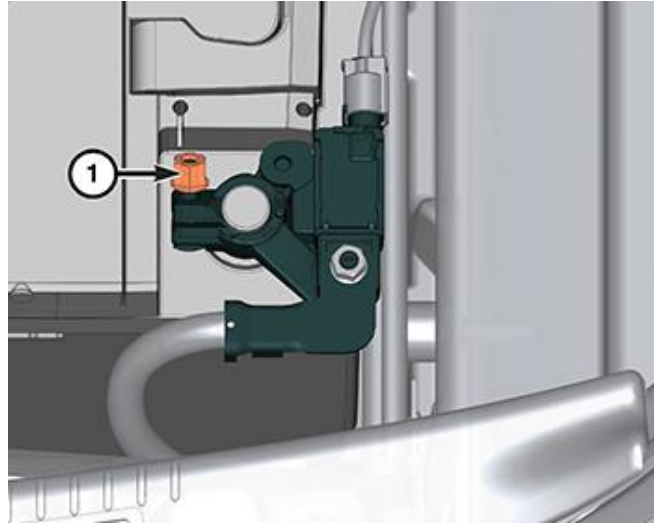

Figure 1 – Battery Negative Terminal Nut
1. Loosen the M6 captive nut (1) securing the battery negative cable clamp to the battery negative post (Figure 1).
- e. Tighten the battery negative cable clamp M6 nut (1) to 7 N·m (62 in. lbs.) (Figure 1).